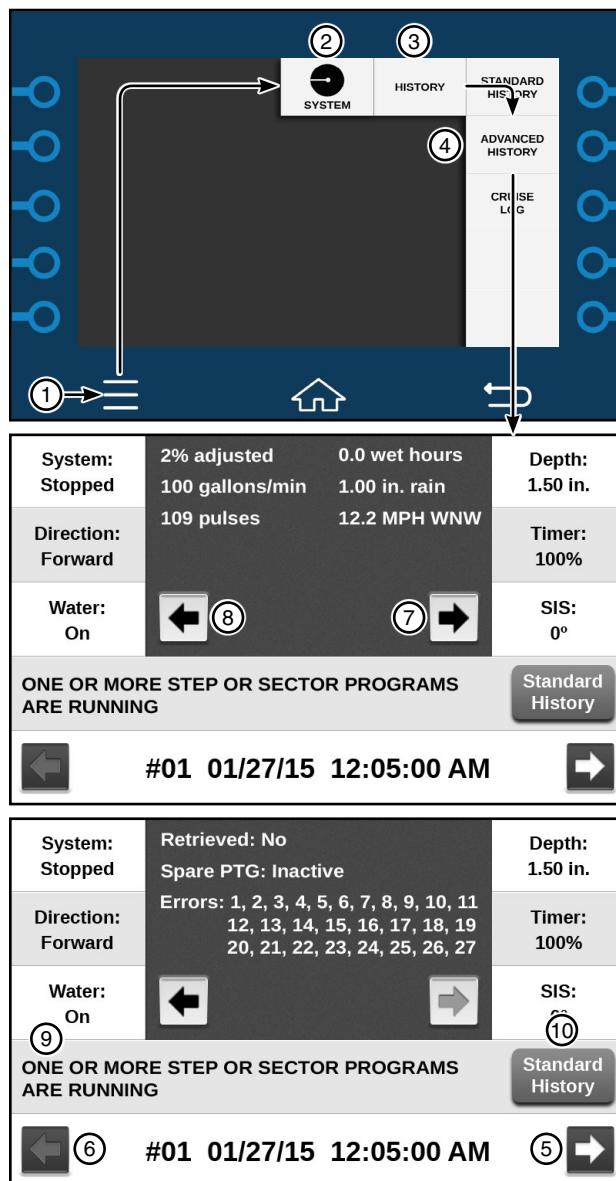

Figure 69-1
The Advanced History Screen displays a record of all statuses and error codes related to the history record. Refer to Figure 69-1.
1. To view Advanced History, push **Menu**, **System**, **History**, and **Advanced History**. See Figure 69-1.